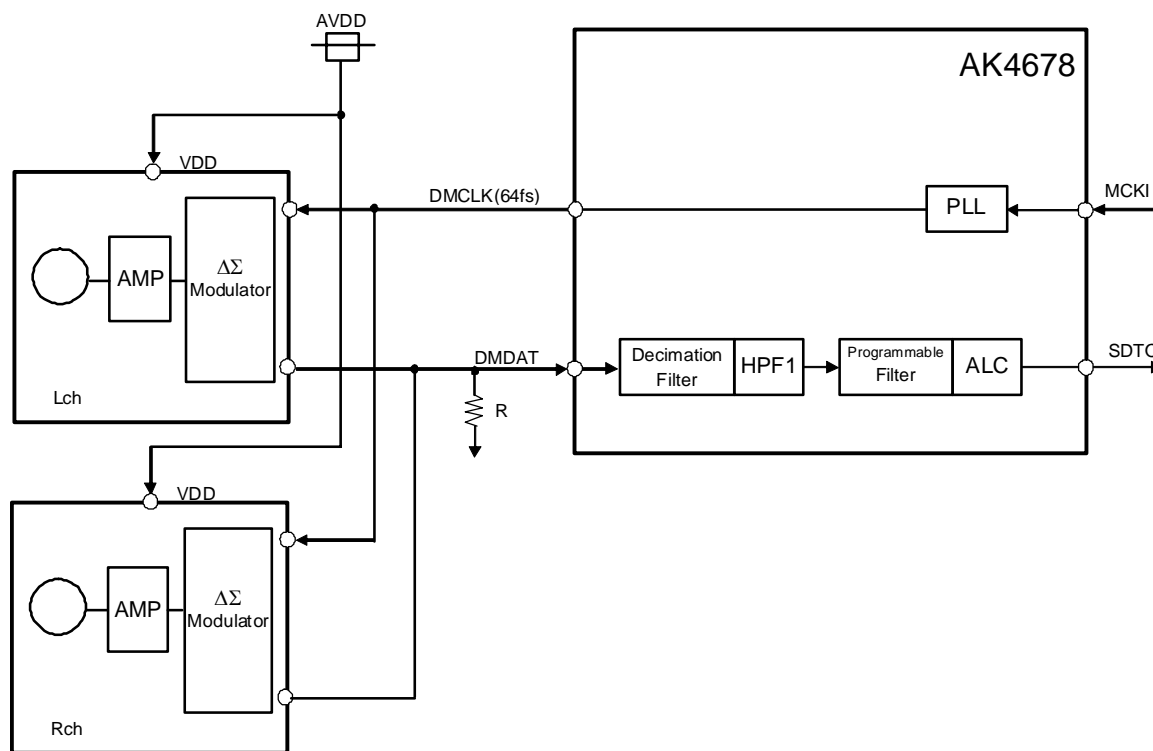
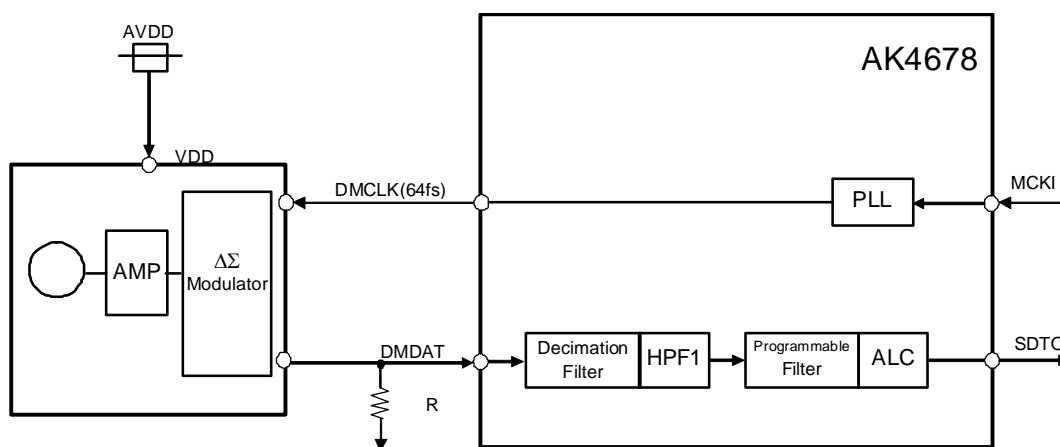

Figure 46. Connection Example of Stereo Digital MIC
Figure 47. Connection Example of Mono Digital MIC
The AK4678 can be connected to digital microphone by setting DMIC bit = “1”. When DMIC bit is set to “1”, the LIN1 and RIN1 pins become DMDAT (digital microphone data input) and DMCLK (digital microphone clock supply) pins respectively. The same power supply as AVDD must be provided to the digital microphone. The Figure 46 and Figure 47 show mono/stereo connection examples. The DMCLK signal is output from the AK4678, and the digital microphone outputs 1bit data, which generated by $\Delta\Sigma$ Modulator, from DMDAT. PMDML/R bits control power up/down of the digital block (Decimation Filter and HPF1). PMADL/PMADR bits settings do not affect the digital microphone power management. The DCLKE bit controls ON/OFF of the output clock from the DMCLK pin. When the AK4678 is powered down (PDN pin = “L”), the DMCLK and DMDAT pins are pulled-down by internal 2.7k Ω (typ.) resistor. However, when the AK4678 is powered-up (PDN pin = “H”), path of the internal pulled-down resistor is OFF. Therefore, external pull-down resistor(R) should be connected to the DMDAT pin to avoid floating state.